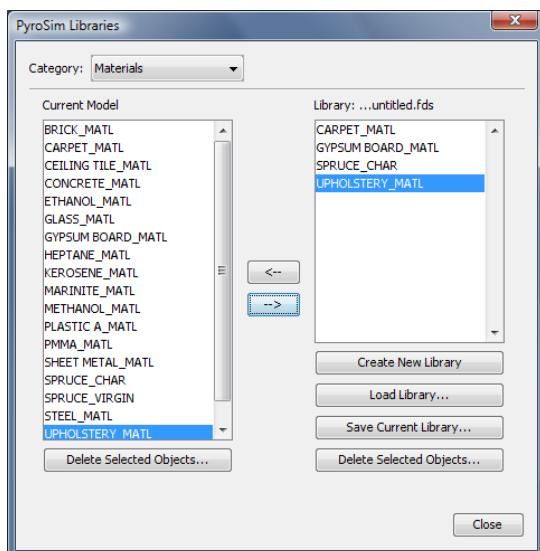

Figure 20.1. Creating a library of materials
2. Select the **Category** that you want to manage and move selected items from the **Current Model** into the **Library**, Figure 20.1.